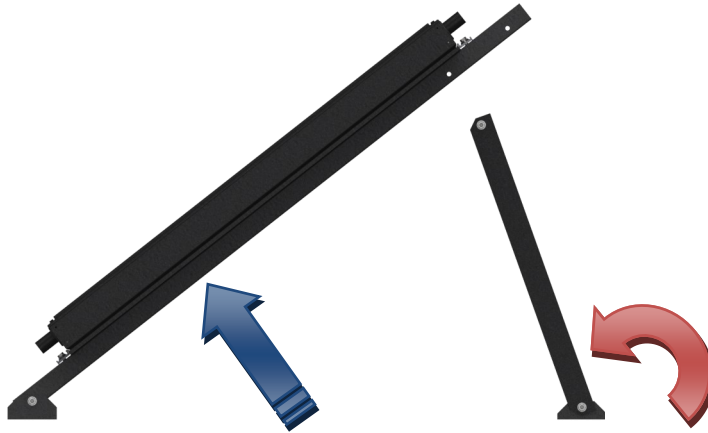

Figure 6
1. Tilt the Collector up and swing rear legs into position aligning the appropriate hole (first/second) as selected from *Table 2, 4 or 6*. As shown in *Figure 6*.